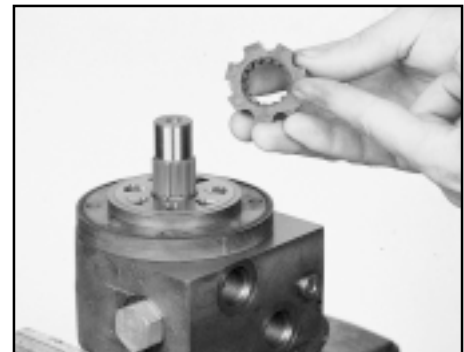

Figure A07
8. Place the inner counterbored side down on the splines so that the semi-circular roll pockets are between the rotary valve port windows. SEE FIGURE A07.